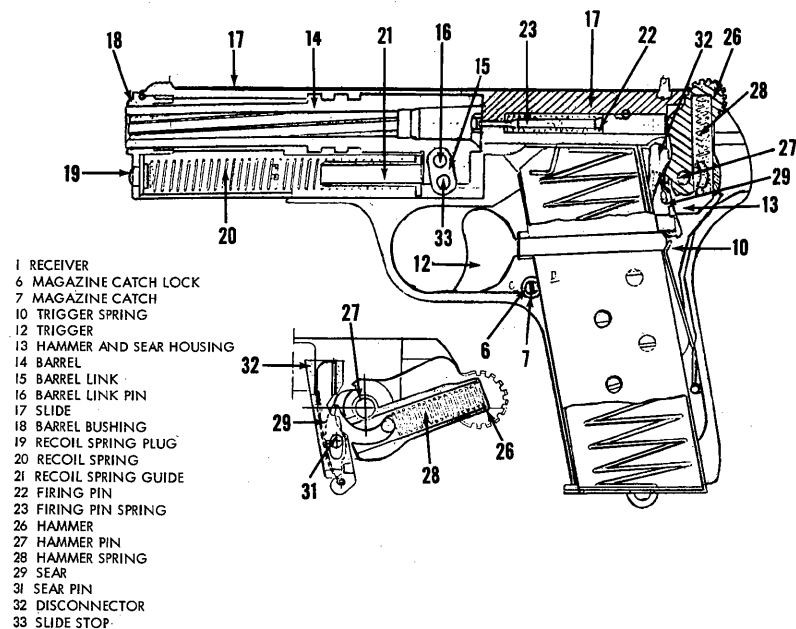
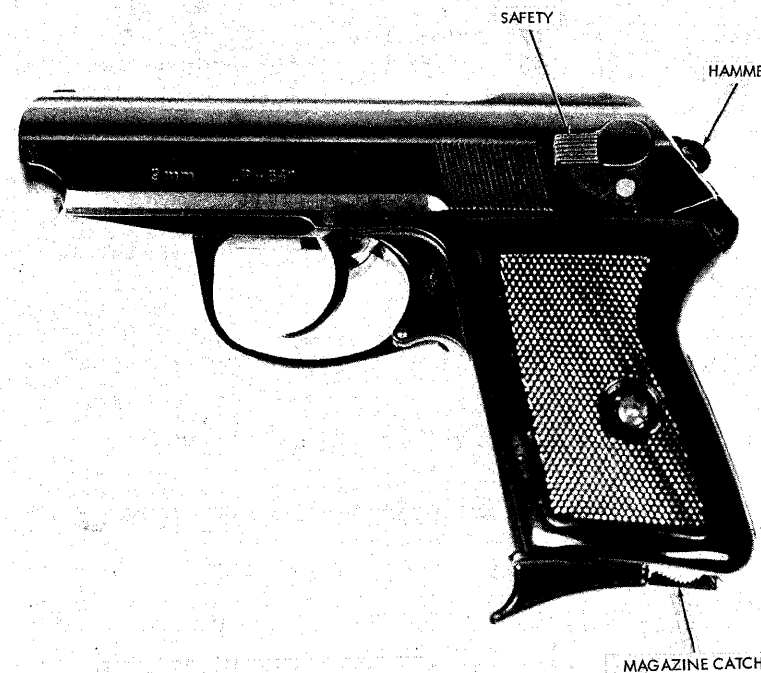

Figure 14. Tokarev pistol, section.
Figure 15. Polish P-64 pistol.
c. The barrel is locked to the slide by ribs (machined into the outer surface of the barrel (14, fig 14)) that mesh with grooves in the slide. A link (15, fig 14) connects the movable barrel to the receiver by means of the slide stop pin; as the barrel moves to the rear in recoil, the link pivots and pulls the rear end of the barrel down to unlock it from the slide. Because of its momentum, the slide continues to the rear.
The P-64 (fig 14), the newest pistol used by the Polish Army, is a replacement for the old Pistolet TT (para 13). The double action P-64 bears a strong resemblance to the Soviet Makarov pistol and has some features copied from the German Walther PP pistols; it, however, is an original design. It can be identified by the inscription 9-mm "P-64" on the left side of the slide (fig 15). The P-64 pistol fires 9x18-mm cartridges (sec VI).
b. Insert the magazine into the pistol so that the magazine catch (fig 15) retains the magazine. Grasp the slide by the grooves and pull it fully to the rear against the pressure of the driving spring. Release the slide; the driving spring will force it forward, loading the pistol.
e. Before the slide recoils, the disconnecter projects upward from the hammer mechanism into a cut in the slide (fig 14). When the slide recoils, the disconnecter is forced down, pushing the trigger extension down and releasing the sear. The sear spring then presses the sear against the hammer. As the slide continues to recoil, it rocks the hammer back so that the sear engages the sear notch on the hammer. When the slide counterrecoils, the sear holds the hammer cocked; when the slide is fully forward, the disconnecter is free to raise into the cut in the slide. This action allows the trigger bar, under the pressure of the trigger spring, to rise against the bottom of the sear. When the trigger is released, it moves forward. As the trigger bar clears the sear, the trigger spring again forces the trigger bar up into position in front of the sear. Pressure on the trigger will now fire the pistol again.